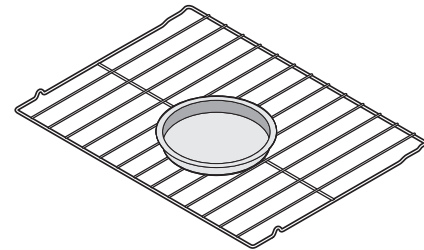
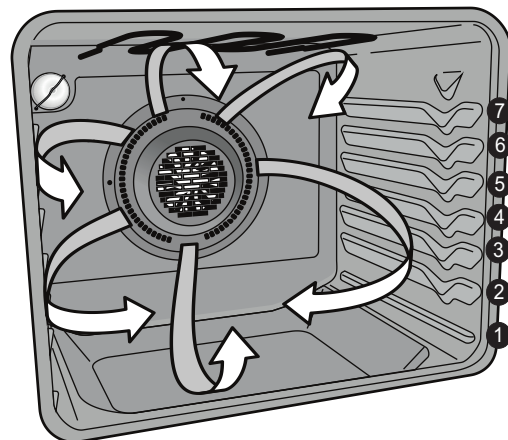

Figure 17: Single rack baking for convenience foods
Figure 18: Oven rack position (4) best for cooking convenience foods
- Always place food in center of the oven on rack position 4 (Figure 18). Place the food as shown in Figure 17.